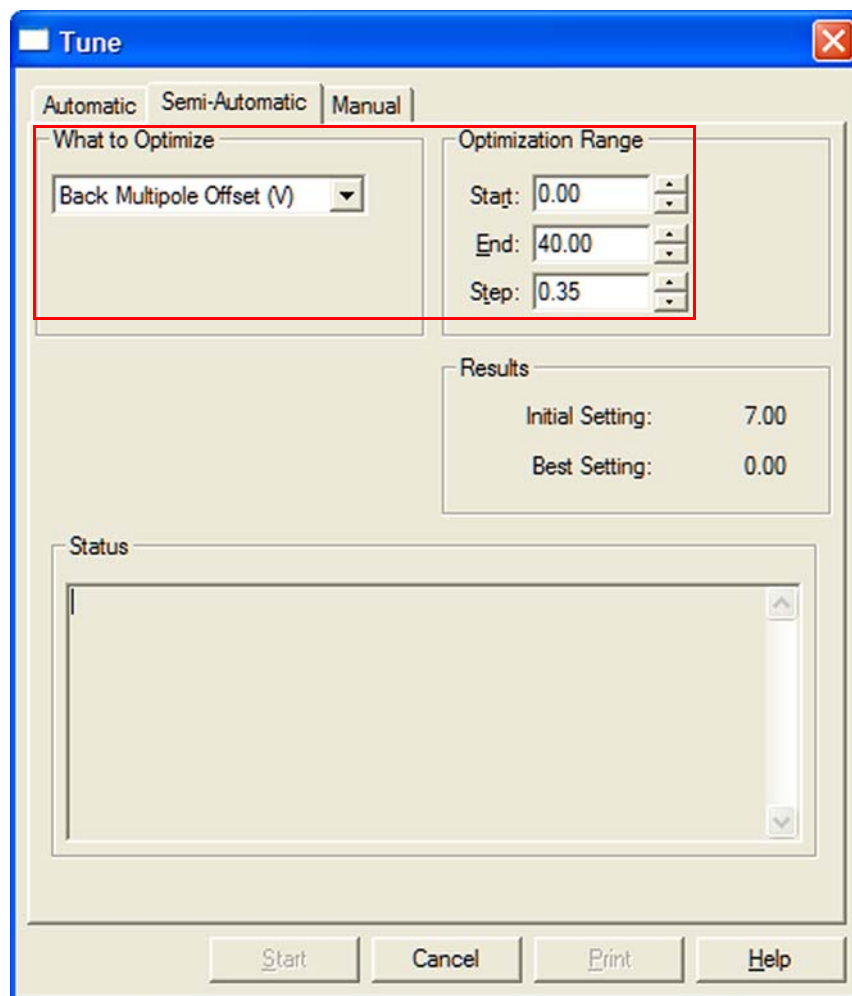

Figure 7-19. Semi-automatic tune of the Back Multipole Offset dc voltage
5. Open the Tune dialog box and perform a semi-automatic tune of the Back Multipole Offset with the settings shown in Figure 7-19 on page 7-22 (Start 0, End 40, Step 0.35).